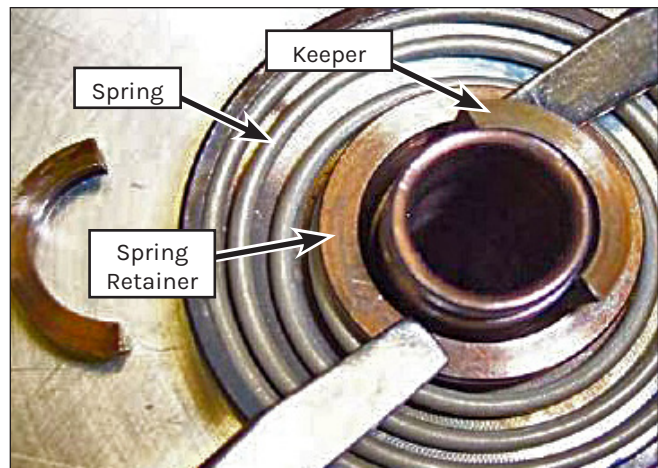

Figure 121: Spring Retainer Removal.
5. Press down on the valve spring retainer and slide the spring keepers out from the assembly (Figure 121).